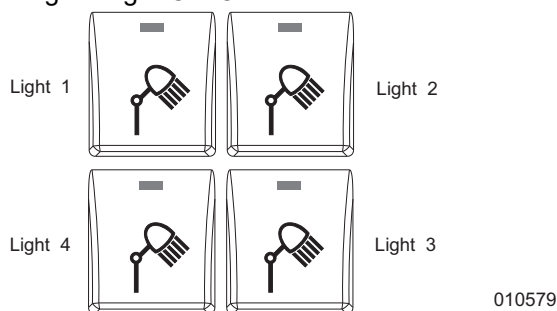

Figure 3-28. Light Fixture ON-OFF Buttons
2. See Figure 3-28. Switch lights OFF (O) by pressing the light ON-OFF buttons.